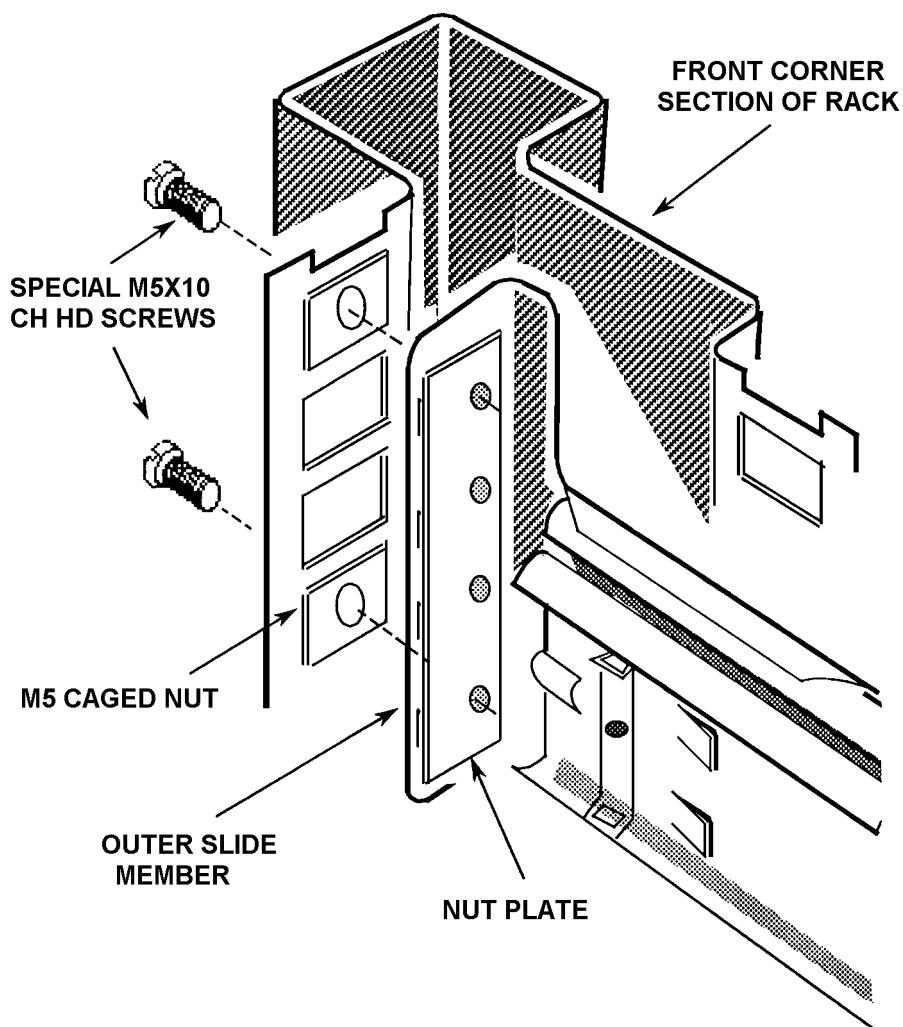

Figure 2.8 - Fitting the outer slide members into the rack
5. Fit the **Outer Slide Members** (two off) to the rack, as shown in Fig. 2.8